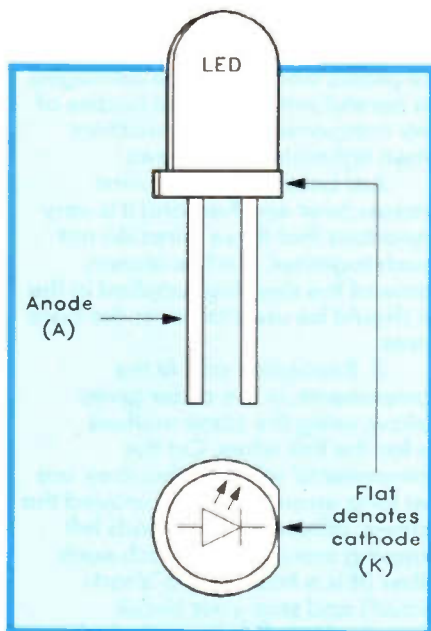

Figure 3. LED symbol and connections (LD1).
b) Next fit the LED, LD1, which is a 'blob' of clear red plastic with two wires coming out of one end. It is fitted in the position shown on the guide-sheet, and *must* be connected the right way round – or it will not light up. One side of the LED is flattened (the lead on this side of the LED is known as the cathode (K), while the lead on the other, rounded, side is called the anode (A)). The LED, circuit symbol and connections are shown in Figure 3.